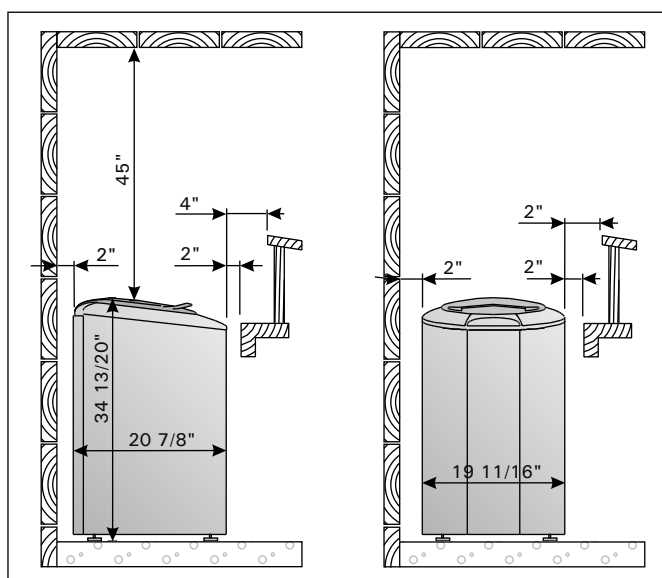

Figure 7. Minimum safety distances from the heater (inches)
requirements concerning safety distances given in fig. 7.
safety railing must be built around the heater. The minimum distances given in figure 7 must be observed.
1. Remove heater from carton and place in proper location in sauna room. Observe proper clearances as per figures 7 and table 1. After final hookup, electrical contractor should secure heater to floor with at least two screws or bolts.